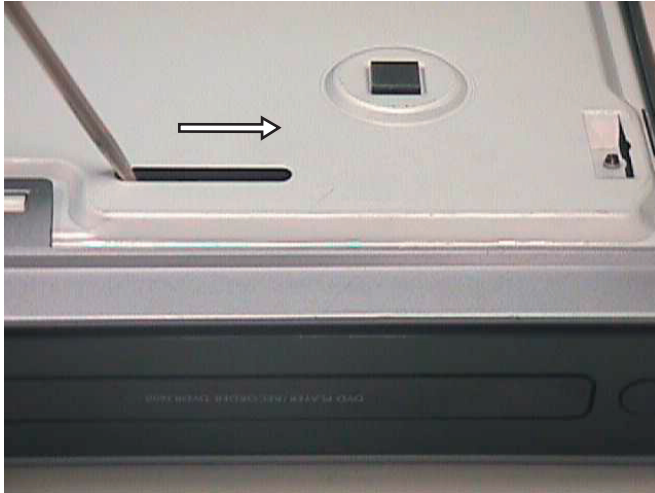

Figure 1: Unlock the Tray loader
- 1) Insert a screw-driver into the slot provided at the bottom of the set and push in the direction as shown in Figure 1 to unlock before sliding the Tray Cover 110 out.